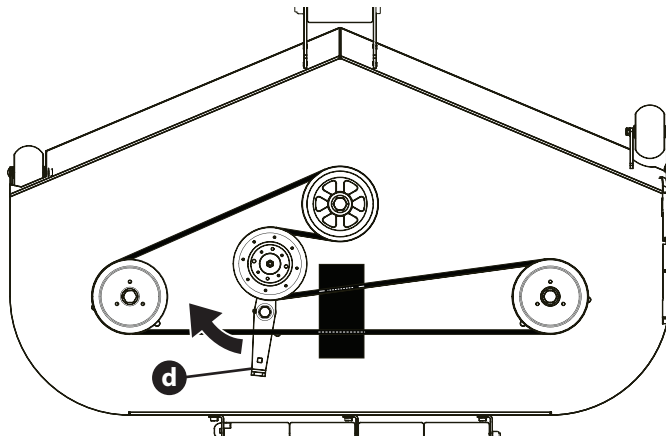

Figure 40
4. Using a 1/2" (12.7 mm) drive insert the end into the 1/2" (12.7 mm) square opening in the deck idler assembly (d) and rotate the deck idler assembly clockwise (Figure 40).
6. Route the new belt as shown in Figure 40. Then reinstall the deck and PTO belt as instructed on page 26.